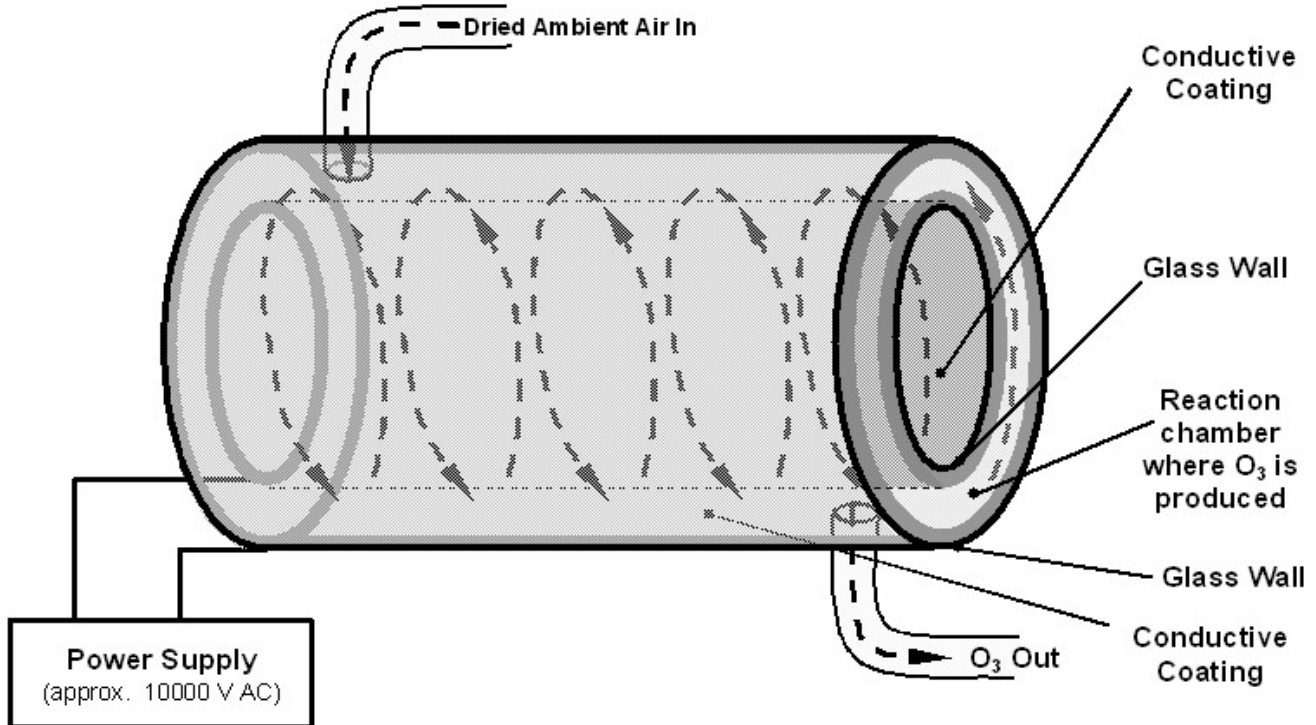

Figure 10-10-11: Ozone Generator Principle
The M200EH/EM uses a corona discharge (CD) tube for creating its O3. Corona discharge generation is capable of producing high concentrations of ozone efficiently and with low excess heat. Although there are many cell designs, the fundamental principle remains the same (Figure 10-10-11).